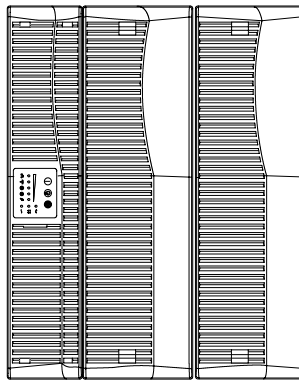

Figure 7. Tower UPS with an EBM
5. Carefully position the cabinets upright (see Figure 7).
NOTE The EBM(s) must be installed to the right of the UPS as shown in Figure 7. Joining brackets are required for installations with two or more cabinets.